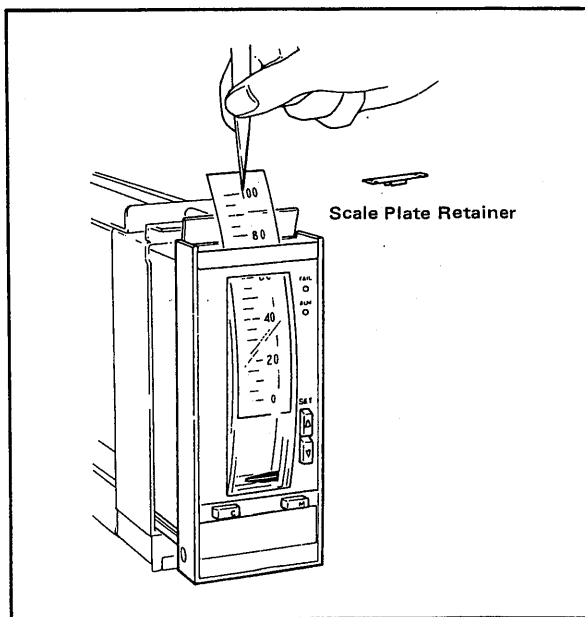

Figure 6-7. Replacing the Scale Plate.
- (1) Pull the indicator body out slightly from the housing.
- (2) Remove the scale plate retainer and the scale plate using tweezers. (See Figure 6-7.)
- (3) Insert a new scale plate. Insure that the measurement pointer and setpoint index indicate 0% on the scale when the measurement input and setpoint are set to 0%.